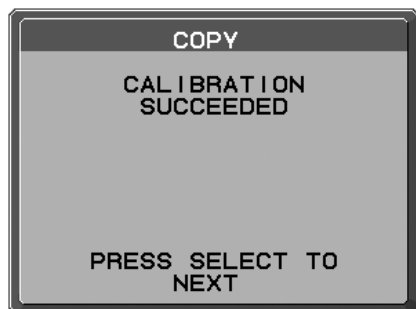

Figure C.7
13. Once the calibration is successfully completed, the white points of Display A and Display B should match. After the CALIBRATION SUCCEEDED message appears (**Figure C.7**), press SELECT to continue into the Fine Tuning mode.